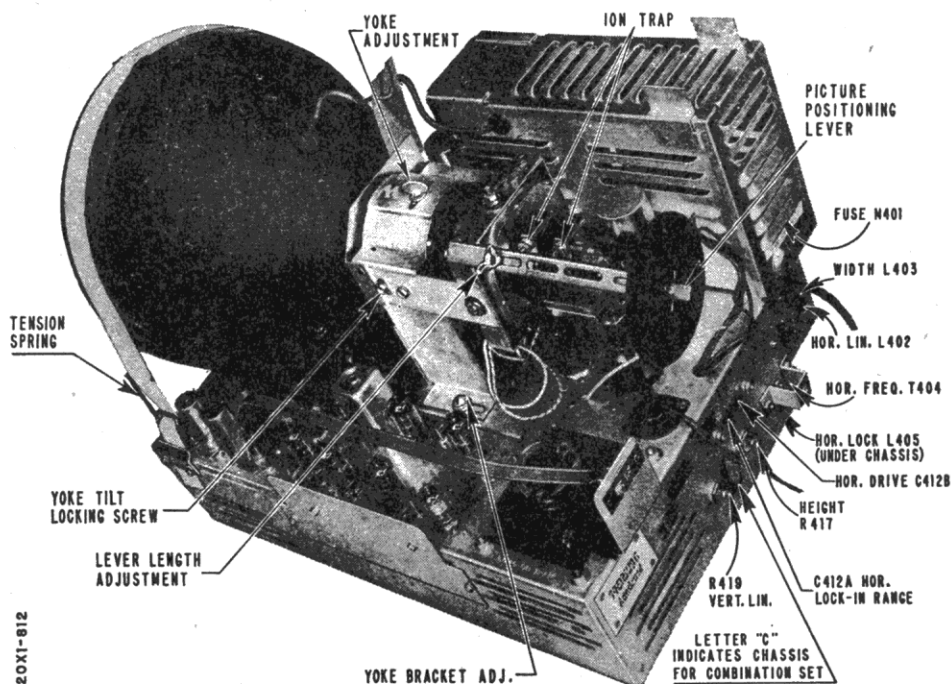

Figure 18. Top View of Chassis. (Picture Positioning Lever shown here used in late sets only.)
In later 20X1 sets, picture centering (focus coil adjustment) can be made without removing the cabinet back. This adjustment is made by moving the picture centering lever up or down and to the left or to the right. See Figure 18.
- For sets having a picture centering lever, loosen the deflection yoke tilt locking screw, see figure 18.